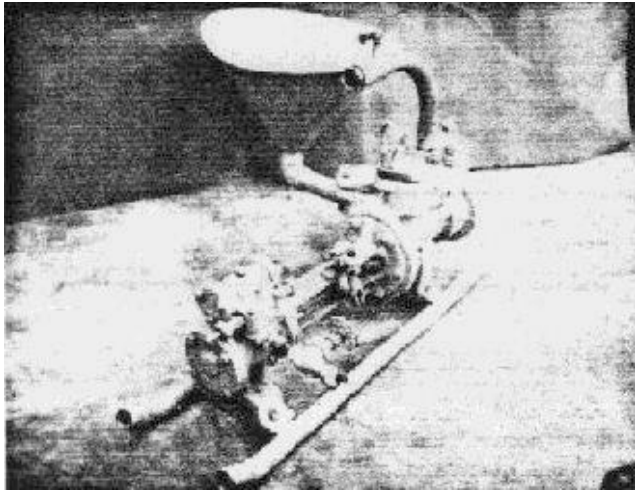

Figure 3-5. Simplex pump
(1) In the event piston pumps are used, there are some advantages of specific varieties that should be recognized. Better volume and pressure controls in the lower ranges can be obtained using simplex pumps. The simplex pump (Figure 3-5) operates with the one piston activating four fluid valves and produces a flow that